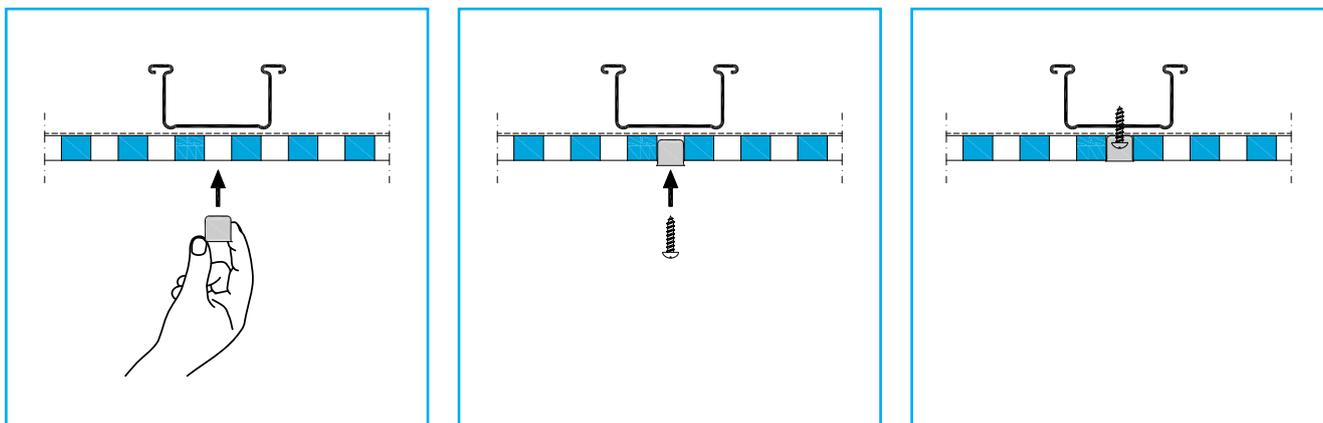

FIGURE 7 Cap Installation
- Use Caps for easy installation. Caps remove the need for finishing screw heads. *[Figure 7]*